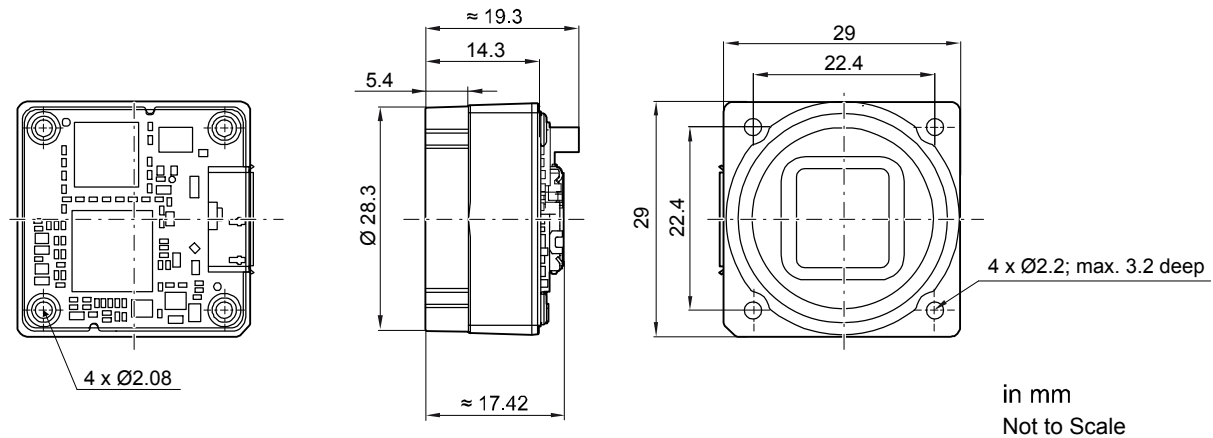

Fig. 7: Mechanical Dimensions (in mm) for Cameras with CS-mount Lens Adapter
- dart cameras equipped with a CS-mount lens adapter are as shown in Figure 7.